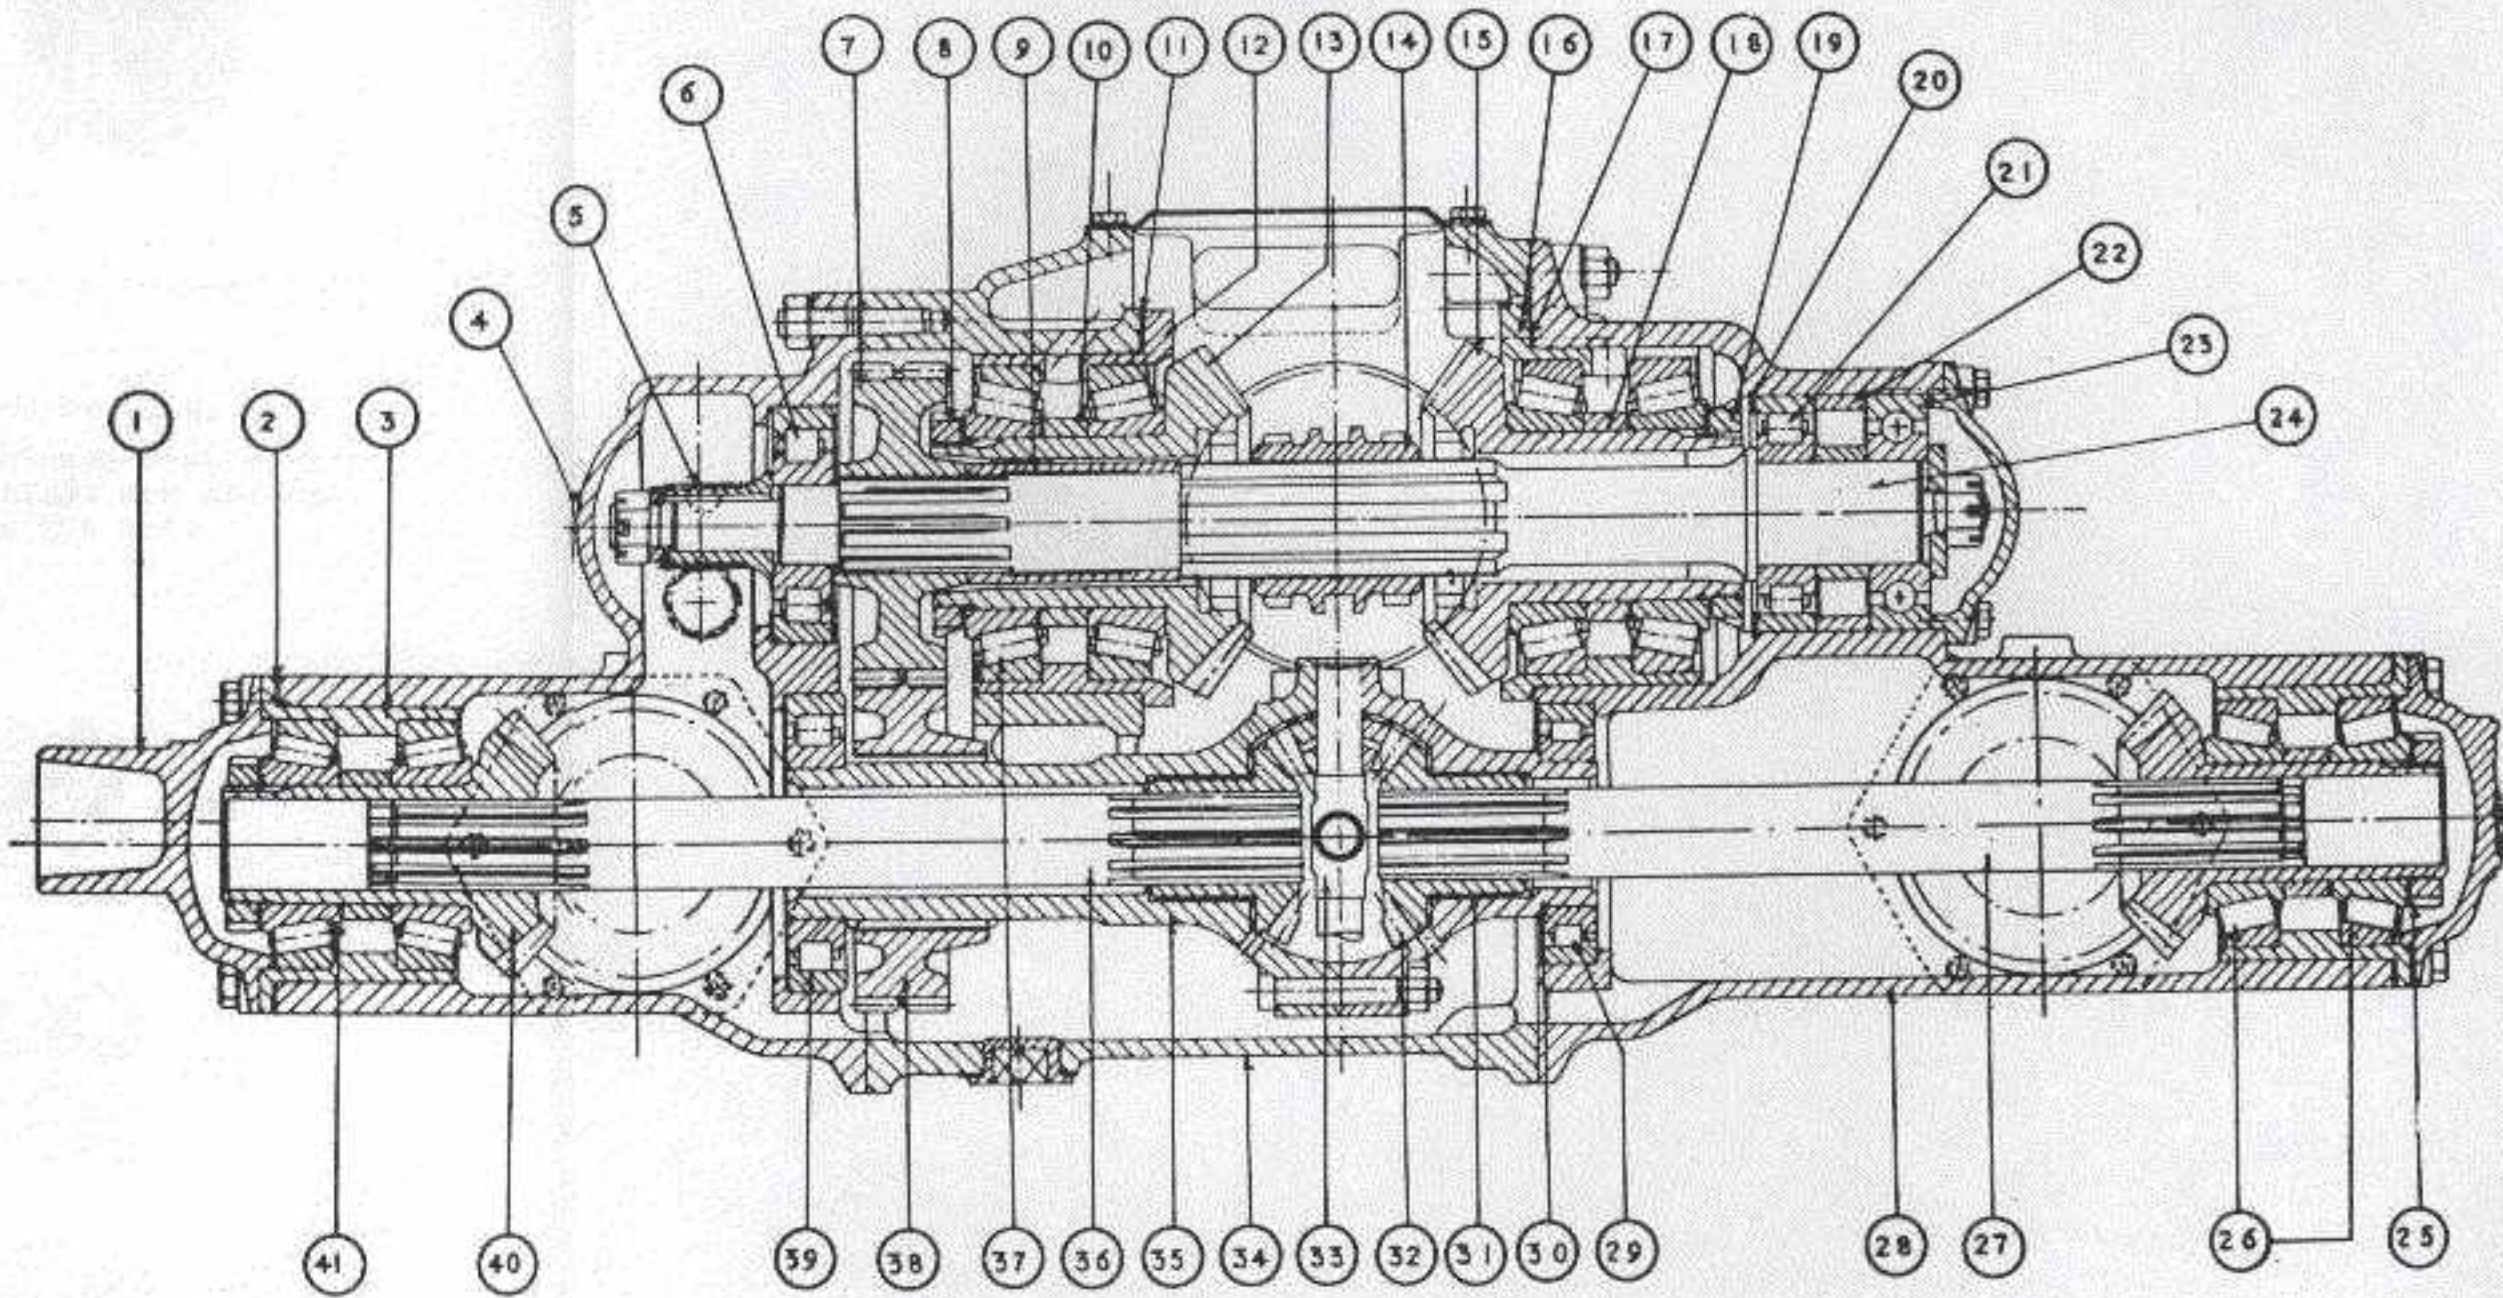

FIG 18 - TRANSFER BOX - GENERAL ARRANGEMENT
39. *Dismantling (fig 18) -*
Differential (fig 18)
Main-Shaft, Bevel Gears and Bearings (fig 18)
Transfer Box (figs 18 and 19)